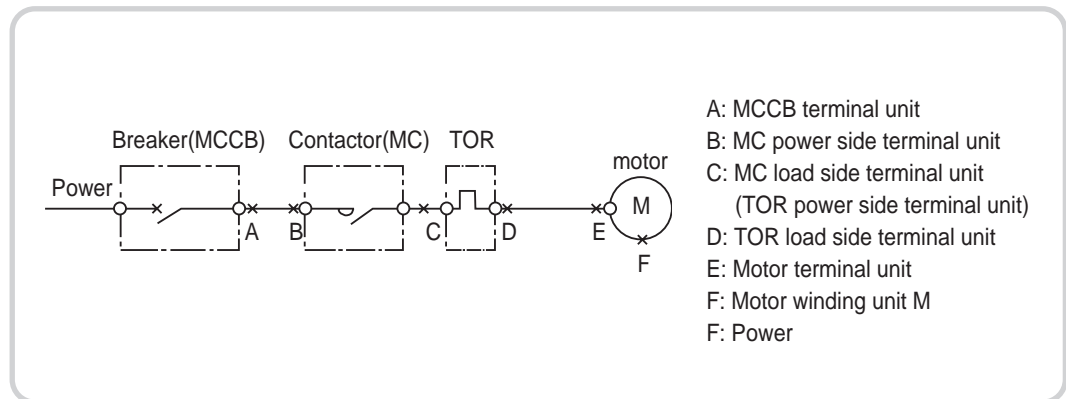

Fig. 70. Branchcircuit's short circuit points
In an MCCB which has a motor with a load and branch circuit with a magnetic switch, short circuit points related with this breaker are the six spots A through F in fig. 70 and since all other points have almost no possibility of a short circuit fault, they are not considered. Therefore short circuit faults on each point are investigated as below. At first, KSC and IEC standards' protection cooperation type as protection cooperation degree (p236) was introduced but if there is short circuit fault on C or D point of fig. 70, the short circuit current is big and permitted over current of Metasol series magnetic contactor is as shown on table 5. So generally protection cooperation type will be Type"1" and it is difficult to set it as Type"2". But when the short circuit point is on E or F of fig. 70, current decrease by wiring's impedance is quite big and the calculated result (higher impedance from D point is 0.) for wire length, 50m and 100m between D and E of fig. 70 is value shown on table 6. In fact, higher impedance is also added from D point so if there is short circuit to E point, the current which flows to magnetic switch gets smaller than the value on table 5. In this case, there is big possibility of having Type "2" as the cooperation type. If there is fault on F point, current gets smaller so the condition is better than E point.
Based on Meta-MEC series magnetic contactor's permitted over current (the value in the case of no current limit of short circuit current with MCCB breaking time as 10ms), the calculated result of wire length which is needed to make protection cooperation Type "2" possible, is stated on table 5. This value is also calculated with higher impedance from D point as 0, so actual wire length will become a little shorter than this. Even when the length of wire is short, it is relatively easy to make possible up to certain length by methods as (1) enlarge magnetic contactor's size, (2) use MCCB with current limit effect, etc. over current resistant quantity is stated on table 4 but except small quantity rated heater, generally coordination Type "2" is relatively easily satisfied. In the case of a short circuit fault on A or B point of fig. 70, if the MCCB's breaking capacity is sufficient, there is no problem.
As investigated above, if each selection is correct, coordination of Meta-MEC series MCCB and magnetic switch is relatively easily satisfies 1~8 details of coordination conditions (p234). But during the event of a disconnection fault, it becomes about type "2" of KSC and IEC standards coordination for short circuit on E or F point of Fig. 70 or type "1" for short circuit on C or D point. Depending on short circuit protection device, it is possible to have type "2" of coordination type even with short circuit fault of point C or D. But point C or D's short circuit occurs in magnetic contactor or TOR's terminal unit so it is impossible to avoid insulation deterioration between terminals and terminal's burnout. Eventually a magnetic switch needs to be exchanged so even with type "2" of coordination type, it should be regarded as having fewer advantages. So for coordination type during short circuit, type "2" is proper in the case of short circuit on E or F point and type "1" for short circuit on C or D point. If you interpret that 9th detail of coordination conditions (p234) is applied to the short circuit case on E or F point, as stated above, it can be said that combination of Meta-MEC series MCCB and Meta-MEC magnetic switch can be satisfied at certain level.